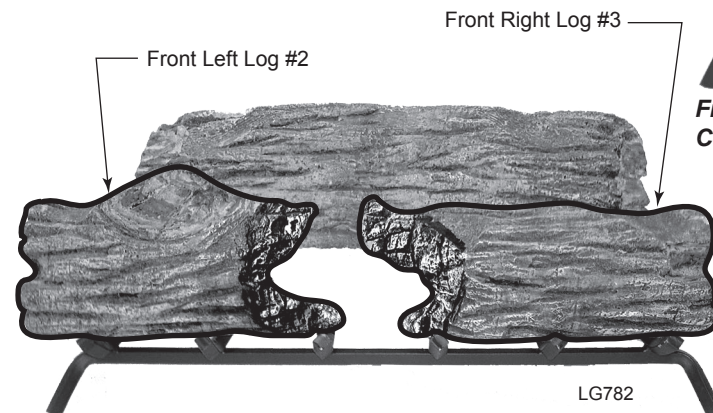

Figure 13 -
2. Place front left log #2 on the front of the grate and to the left. *Figure 13*
3. Place front right log #3 on the front of the grate and to the right. *Figure 13*